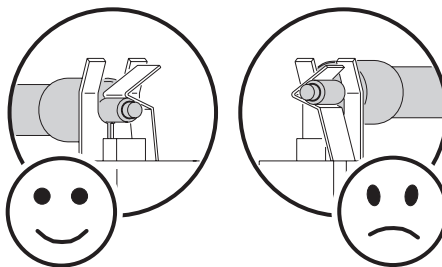

Figure 5: Lamp terminals
5. Make sure that the terminals on the lamp sit below the V-section in the lampholder clips and not in the V-section itself, as shown in Figure 5.